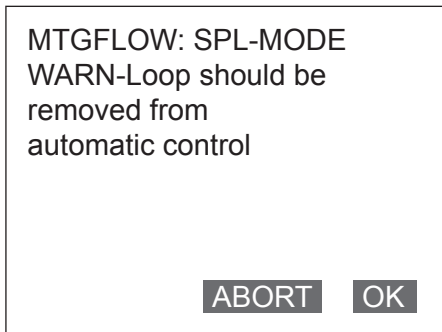

Fig. 7-40.
- Fig. 7-40. will then be displayed.
2. Once the display as shown in Fig. 7-40. appears, move the arrow key up or down to select OPEN or CLOSE. After making a selection, press F4 (ENTER). If F3 (ESC) is pressed here, the selection will be canceled and the display will return to the Digital output menu.